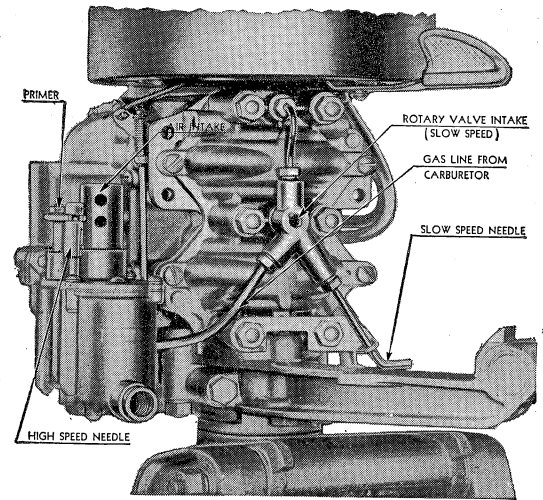

Fig. 14
Carburetion is of the full range type, thus providing efficient carburetion at all speeds—some departure from customary construction has been made nevertheless, in that only the high speed needle and jet are built into the carburetor body; the slow speed needle and jet are actually not a part of the carburetor proper—this feature is part of the crankcase assembly as shown in Fig. 14 and functions throughout the entire speed range of the motor.
Since both third port and rotary valve principles are employed, there are two independent systems of carburetion. The carburetor itself is of the conventional type—consisting of a float chamber, mixing chamber, throttle valve, needle for adjusting mixture and a connection to the intake manifold. The carburetor and third port operate only at intermediate and high speeds and cease to function entirely at slow speeds. Slow speed operation is maintained, however, by mixing air and gasoline in the slow speed opening which is conducted to the crankcase chamber by way of the rotary valve. Fig. 14 and 15.
1. Close slow speed needle, Fig. 14, turn right until it rests gently (do not damage needle seat by screwing down too tightly) on its seat, then unscrew approximately $\frac{3}{4}$ turn. (Turn left.)